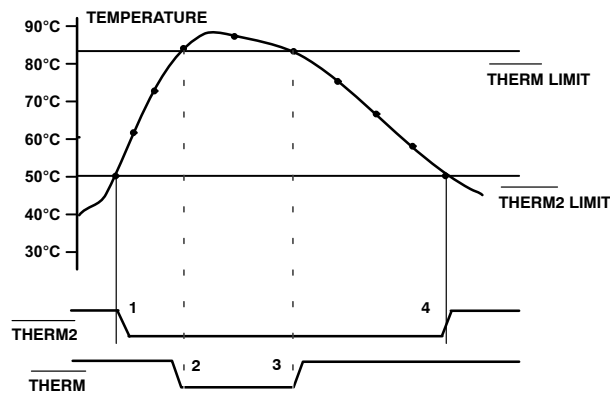

Figure 15. Operation of the $\overline{\text{THERM}}$ and $\overline{\text{THERM2}}$ Interrupts
Figure 15 shows how $\overline{\text{THERM}}$ and $\overline{\text{THERM2}}$ operate together to implement two methods of cooling the system. In this example, the $\overline{\text{THERM2}}$ limits are set lower than the $\overline{\text{THERM}}$ limits. The $\overline{\text{THERM2}}$ output is used to turn on a fan. If the temperature continues to rise and exceeds the $\overline{\text{THERM}}$ limits, the $\overline{\text{THERM}}$ output provides additional cooling by throttling the CPU.
- The $\overline{\text{THERM}}$ output de-asserts (goes high) when the temperature falls to $\overline{\text{THERM}}$ limit minus hysteresis. In Figure 15, there is no hysteresis value shown.